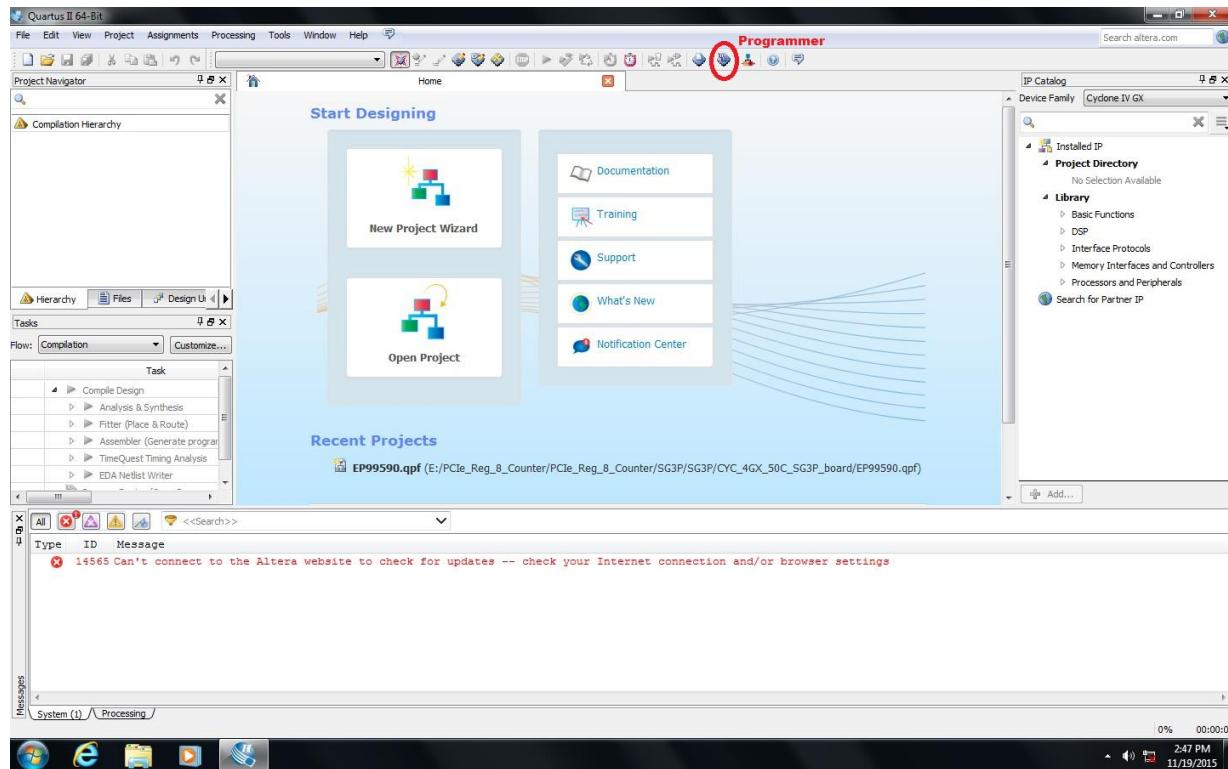

Figure 28: Quartus Starting window
- Open the Quartus (14.1) Software. When it is opened, a new window appears as like figure 28.
- Open the Quartus Software. When it is opened, a new window appears as like figure 28.